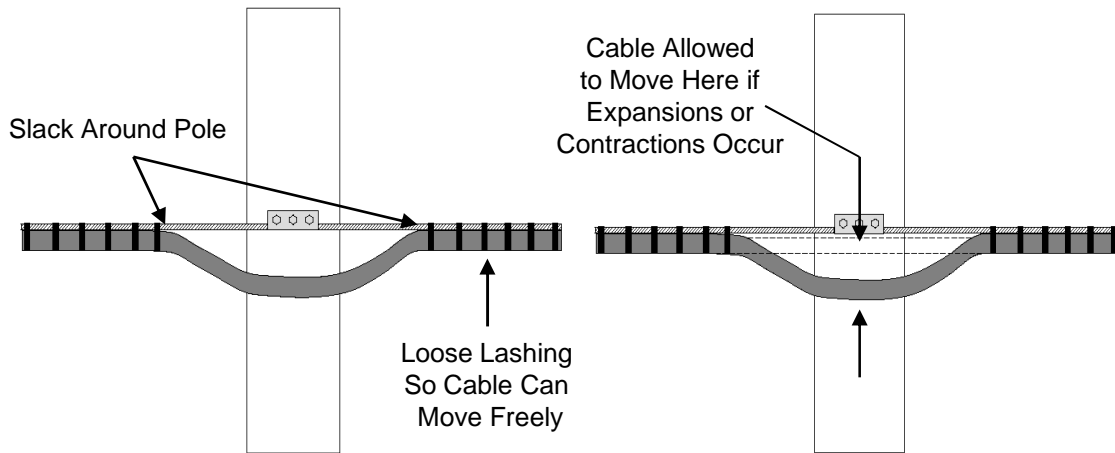

Figure 7
10.7 In aerial applications, ensure lashing or cable ties are loose on either side of the pole so the cable can move at the pole. **See Fig. 7.**